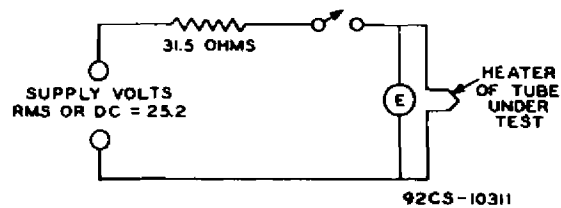

Fig. 1 - Test Circuit for Determining Heater Warm-Up Time.
Heater warm-up time is defined as the time required in the test circuit shown in Fig.1 for the voltage (E) across the heater terminals to increase from zero to 5 volts.